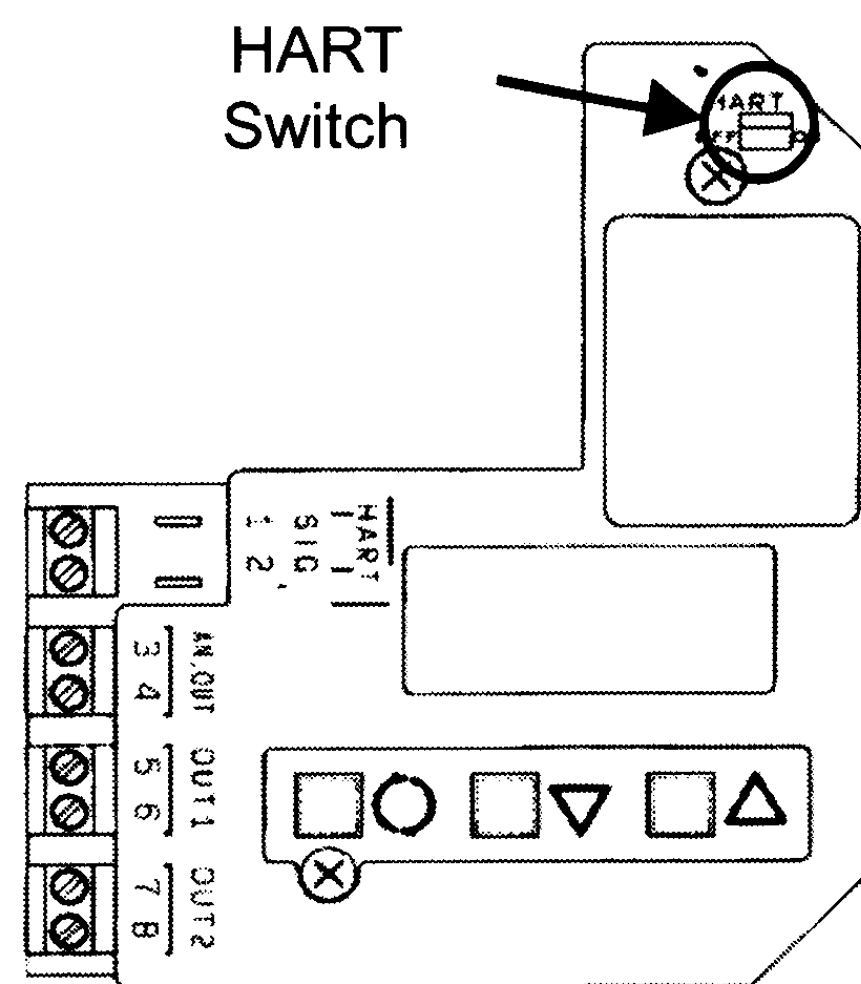

Fig. 5
- \*1: Refer fig.5 of “■ Switching HART Communication Function” for details.